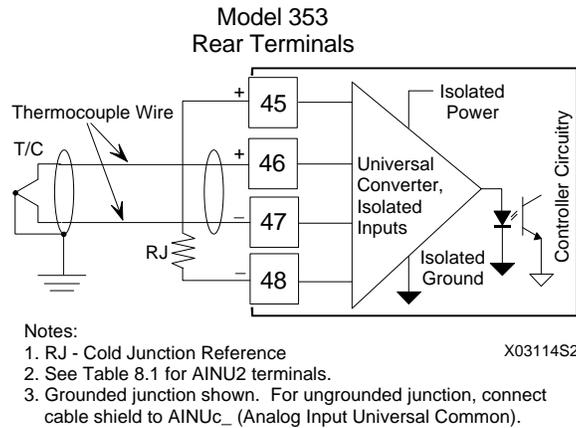

FIGURE 8-16 Universal Analog Input AINU1, Thermocouple Input
Thermocouple input wiring is shown in Figure 8-16. Shown is a typical grounded tip thermocouple. If an ungrounded thermocouple is used, the thermocouple wire shield can be grounded at the Moore 353. Thermocouple wire often has a solid conductor. Make connections as outlined in Section 8.4.2. Be sure that the solid conductor is satisfactorily clamped by the terminal screw and pressure plate. Two reference junctions (RJ) are supplied in the I/O Expander board installation kit. Install as outlined below.